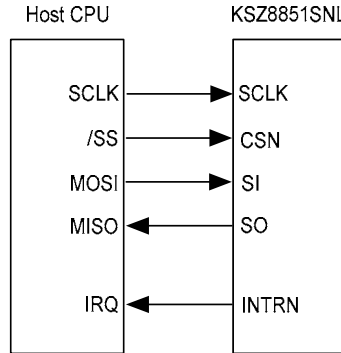

Figure 6. SPI Interface to KSZ8851SNL
The KSZ8851SNL supports a SPI interface in slave mode. In this mode, a external SPI master device (micro-controller or CPU) supplies the operating serial clock (SCLK), chip select (CSN) and serial input data (SI) which is clocked in on the rising edge of SCLK to KSZ8851SNL device. Serial output data (SO) is driven out by the KSZ8851SNL on the rising edge of SCLK to external SPI master device. The falling edge of CSN is starting the SPI operation and the rising edge of CSN is ending the SPI operation. The SCLK stays low state when SPI operation is idle. Figure 6 shows the SPI interface connection for KSZ8851SNL.